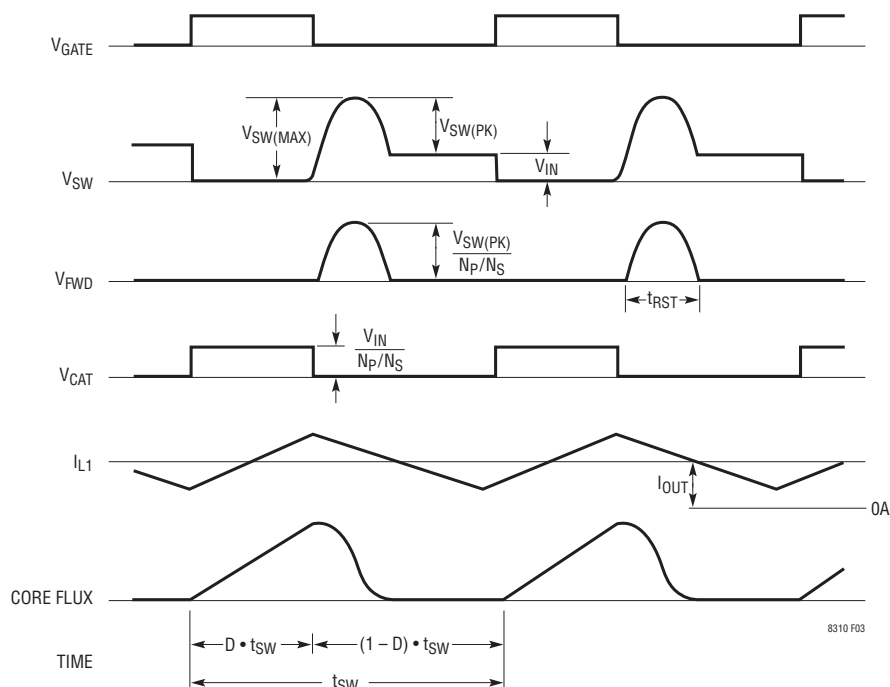

Figure 2. Typical Signals in a Forward Converter
Refer to Figure 2 in the following discussion of signals in a forward converter. When the GATE signal goes high, the primary winding sees the full input voltage, and the secondary winding voltage has a value scaled by the turns ratio, $V_{IN}/(N_P/N_S)$. During this period the forward diode
To keep the transformer from saturating, its core flux must be reset periodically. The LT8310 relies on resonant reset each cycle uses a capacitor between the switch node, SW, and ground (see Figure 2). When the main switch turns off at the end of the duty cycle, V_{SW} ramps up to and beyond V_{IN} , which cuts off secondary-side current and forces primary-side current to charge the switching node. Node SW resonates for half a sine wave until the transformer voltage and current are both zero, which leaves $V_{SW} = V_{IN}$ until the next switch activation. Note that (1) the maximum voltage on the primary switch exceeds the input voltage, and may be well above it, and (2) ideally, the flux reset completes within the switch off-time before the next cycle begins. The LT8310 controller imposes an absolute maximum duty cycle that provides a predictable minimum off-time (at a given switching frequency) in which to reset the core.